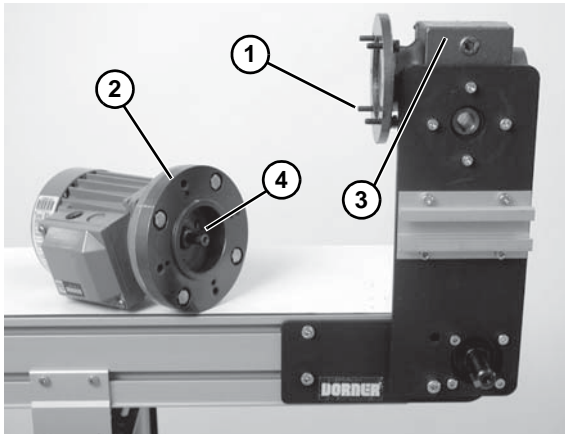

Figure 27
4. Remove four (4) screws (**Figure 27, item 1**). Detach motor (**Figure 27, item 2**) from gear reducer (**Figure 27, item 3**). Retain motor output shaft key (**Figure 27, item 4**).